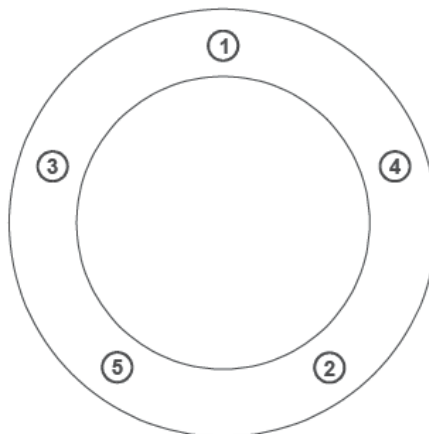

Figure 4 Wheel Nut Torque Sequence
- Fit the wheels to the axle and secure them with the wheel nuts. Tighten the wheel nuts as specified in Paragraph 29 and Figure 4.
- k. Fit the wheel to the hub and secure it with the five wheel nuts. Tighten the wheel nuts evenly to the specified torque and tightening procedure (Paragraph 29 and Figure 4).
29. Wheel nuts are to be tensioned using the following procedure and the sequence illustrated in Figure 4.